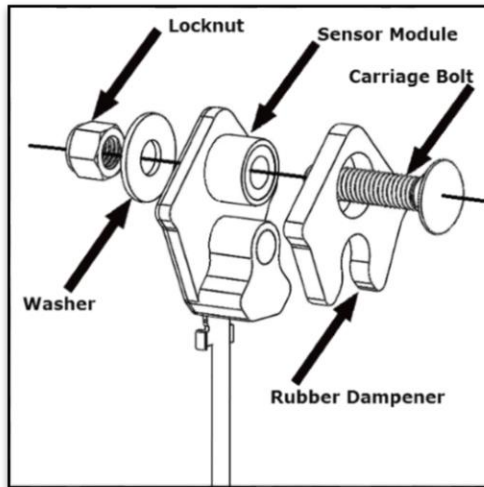

Figure 25
- \*Refer to Figure 25 for sensor schematic